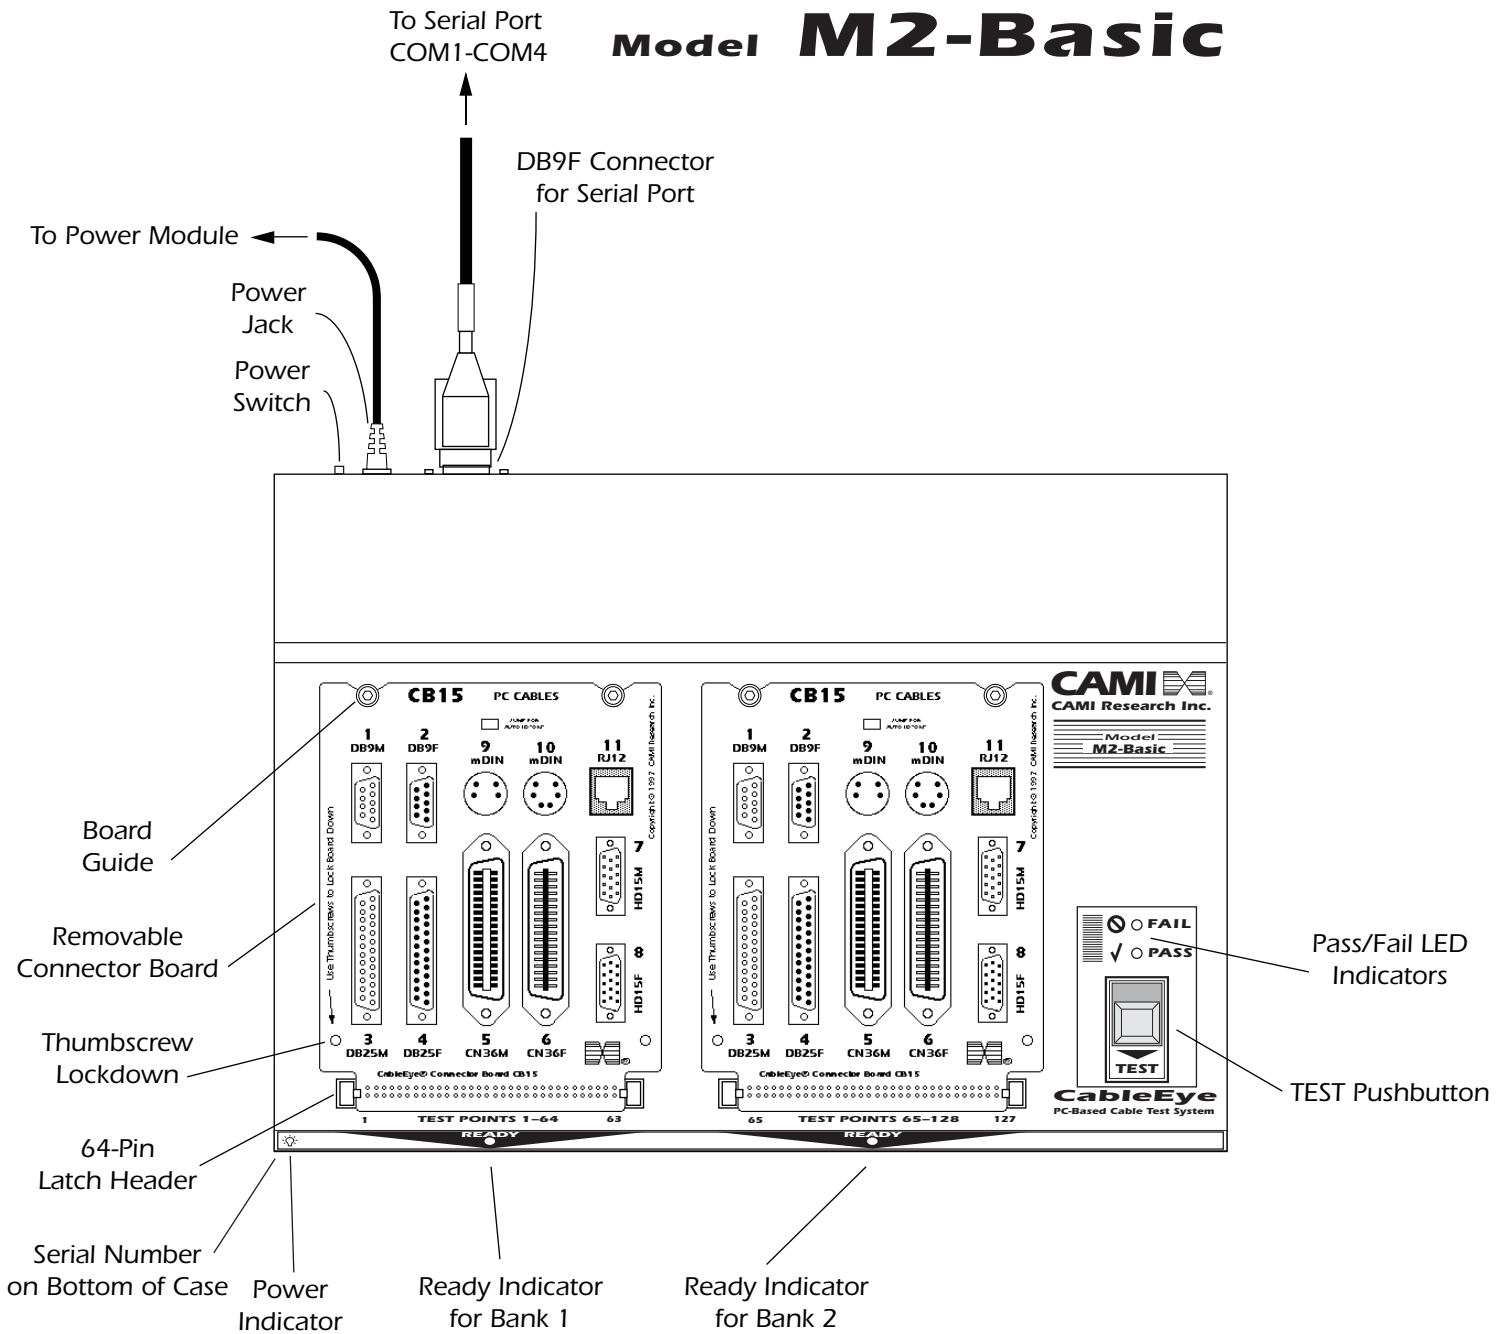

Figure 2-1: The M2-Basic test fixture offers 128 test points and can accommodate all CB boards having connectors of 64 or fewer pins.
- Model M2-Basic, catalog Item 810, measures continuity only, provides 128 test points, and cannot be expanded; see Figure 2-1. This unit provides basic continuity testing for cables of 64 or fewer conductors and is our lowest-cost tester.